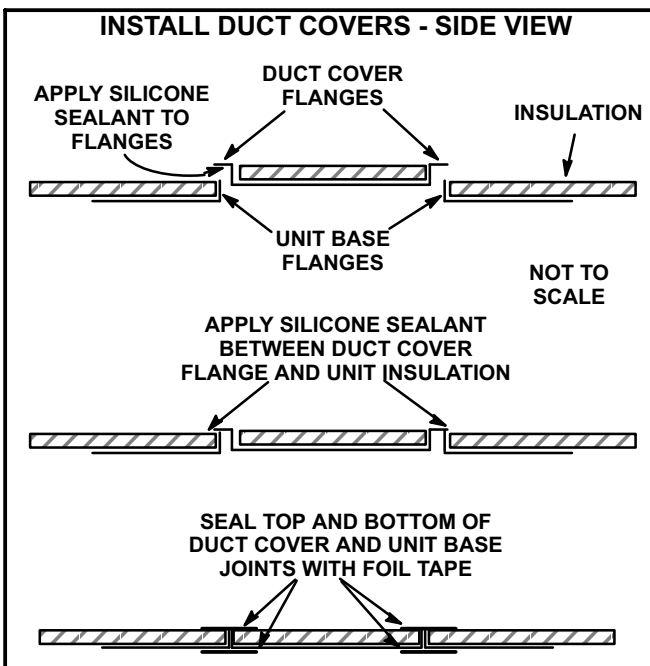

FIGURE 4
- 1- Remove horizontal covers and place a bead of silicone sealant on the underside of the duct cover flanges. See figure 4.
- 4- Seal top and bottom of duct cover and unit base joints with foil tape. See figure 4.